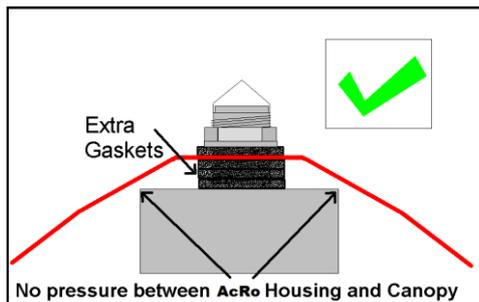

FIG 3. With the extra gaskets added the AcRo housings is moved away from the canopy leaving all the upward pressure being applied from the gaskets.
- 6) If the curvature of the luminaire is too great this can be overcome by adding extra internal gaskets as shown in fig 3 below. If extra gaskets are required please contact your Westire sales representative.